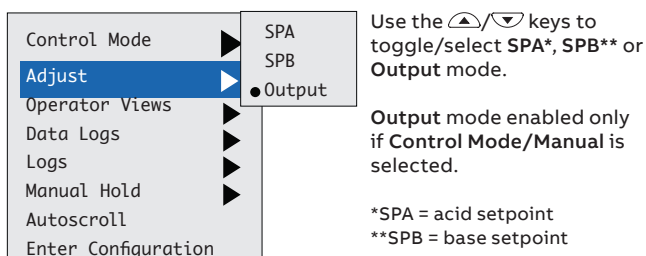

Figure 37 PID control: Control Mode/Setpoint/Output menus
*Enabled only if Control Mode/Manual is selected – see Figure 37.